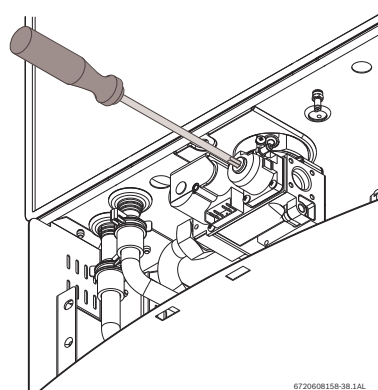

Fig. 71 Adjusting P2 CO₂ level
- Remove yellow painted #40 Torx cover from the front of the gas valve. (Fig. 71) A plastic #40 Torx screw will be revealed.